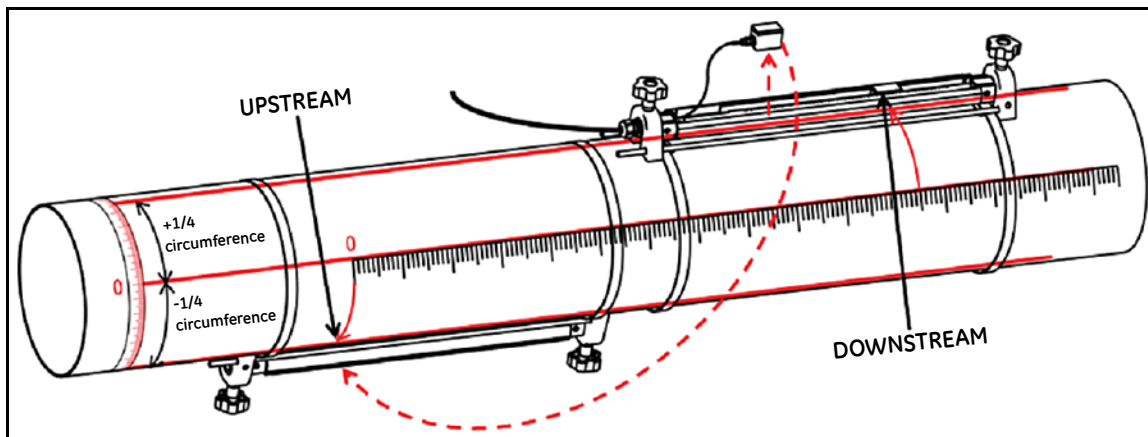

Figure 20: Single Traverse Installation at Transducer Spacing Range 250 to 750mm
1. Mark one straight line parallel with the pipe direction on pipe surface, use a band tape to measure the circumference of the pipe, and mark another two lines on position of $+1/4$ and $-1/4$ of circumference; these two lines are made for two fixture alignment. Then mark two transducer positions on the two straight lines separately using the band tape. Refer to Figure 20 for the line marking method.
4. Put the second blank clamp-on fixture onto the pipe on another side, then repeat step 3 to move the straps and tighten the second fixture. Refer to Figure 20 for the fixture position.